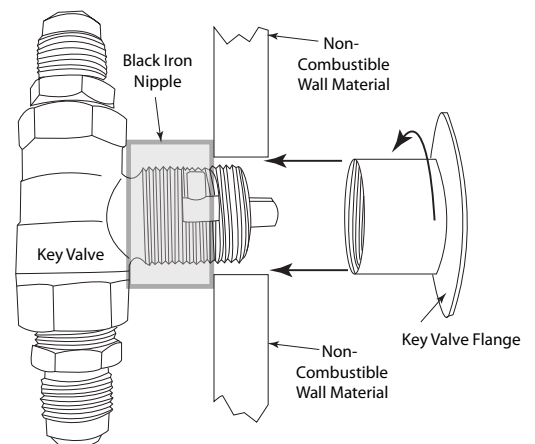

Fig. 7 Typical installation.
3. The primary gas shut-off (not supplied) will require a $\frac{3}{8}$ " male flared fitting to enable connection of the stainless steel flex gas line supplied with the fire pit (see Fig. 7 page 10).